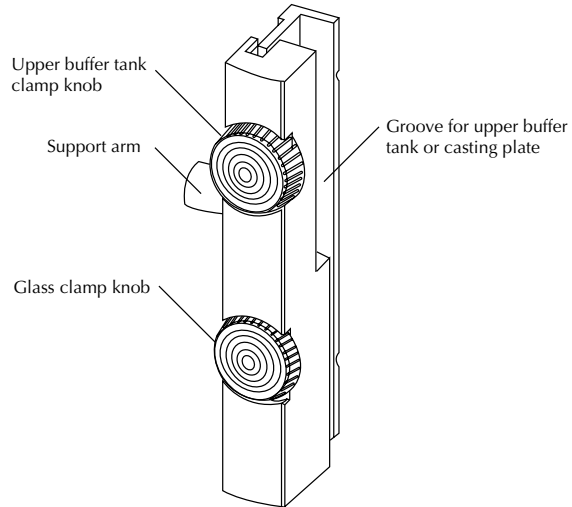

Figure 2-3. Note orientation of rail assemblies (left rail shown).
3. Make sure the rails are completely dry from prior runs before assembly. Place the left and right rail assemblies over the plate edges. Note that the top portion of each rail is notched for insertion of the upper buffer tank or casting plate (Figure 2-3). The uppermost clamp knob on each rail is larger than the other one, as well.